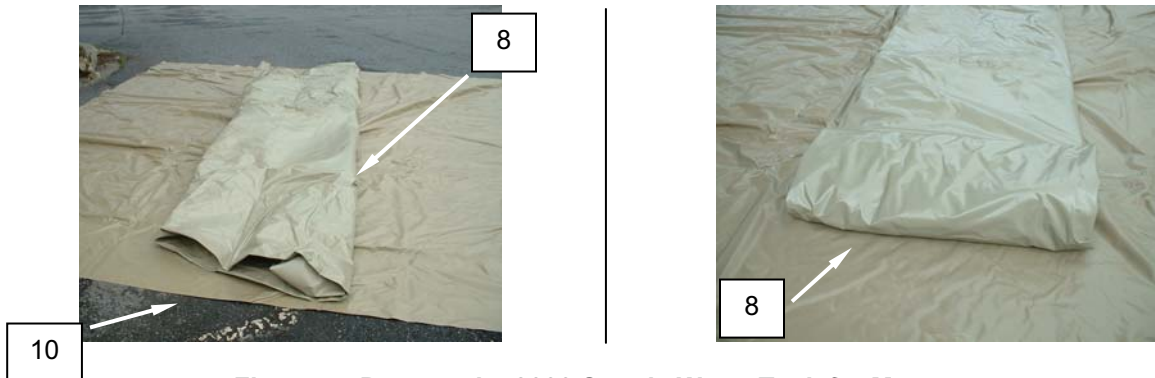

Figure 5. Prepare the 3000 Supply Water Tank for Movement.
14. Fold the tank (**Figure 5, Item 8**) in half again, and recenter on the ground cloth (**Figure 5, Item 10**). The tank should be approximately 4 feet wide. Start from one end and fold over approximately 18 inches of tank fabric.